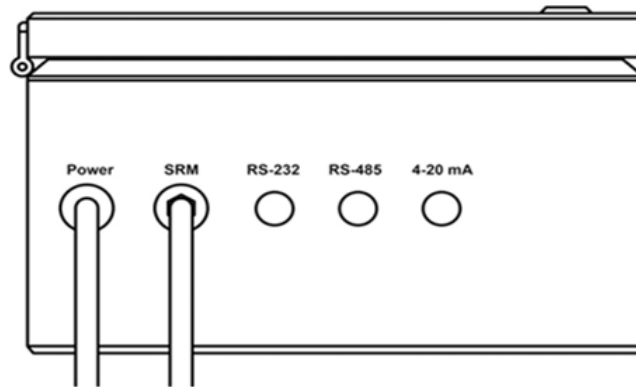

Figure 11. Connecting SRM to the DPM
2. Connect the SRM to the DPM as shown here in Figure 11.